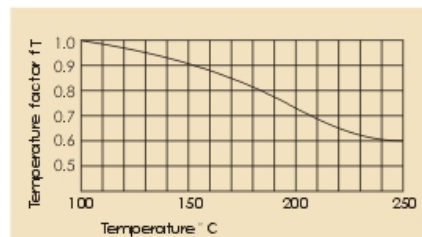

Fig. 9 Temperature factor
- fT = Temperature factor (see fig. 9)
When a linear bearing operates at temperatures in excess of 100 deg. C, its hardness is affected and son is its ability to carry load. The load rating can be corrected by using the accompanying chart (Fig.9).